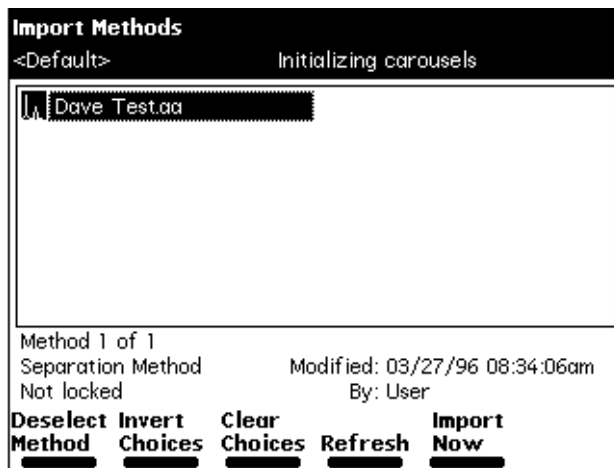

Figure 6-22 Import Methods Screen
- Press the **Import Methods** screen key. The Import Methods screen appears, displaying a list of methods stored on the disk (Figure 6-22). To update the list, press the **Refresh** screen key.